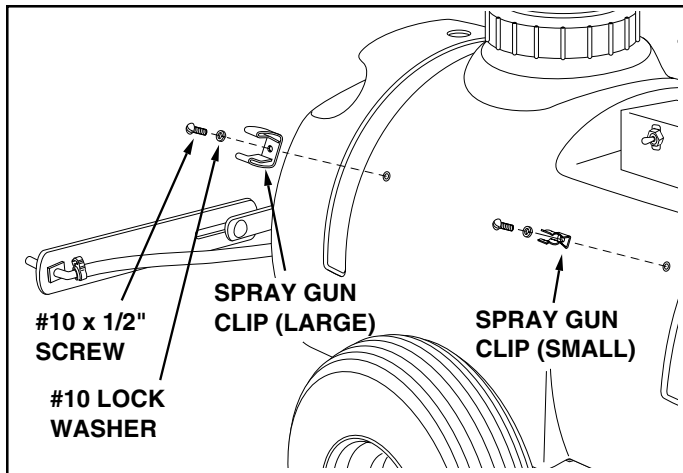

FIGURE 9
13. Assemble the large and small spray gun clips to the side of the tank using two #10 x 1/2" screws and #10 lock washers. See figure 9.